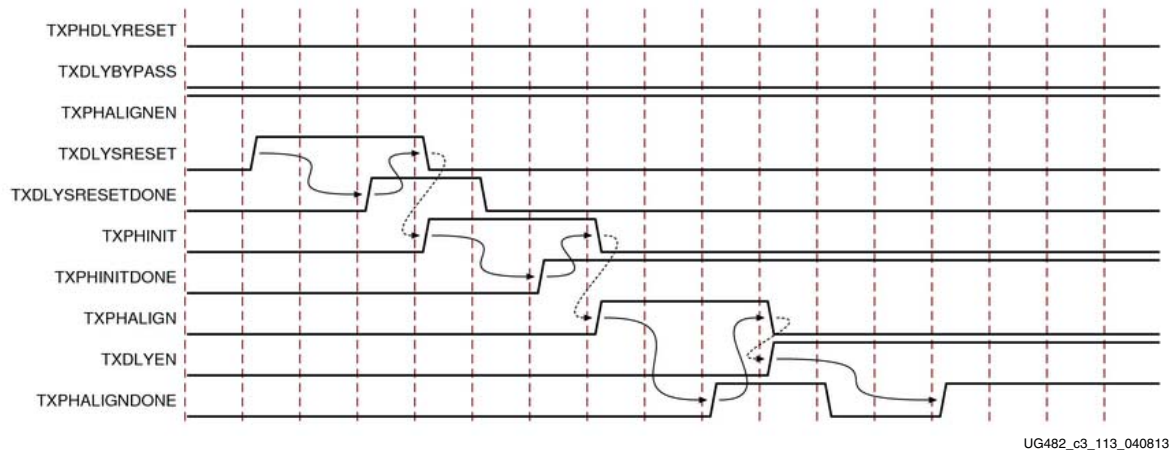

Figure 3-12: TX Buffer Bypass Example, Single Lane Mode
Figure 3-12 shows the required steps to perform the TX phase alignment and use the TX delay alignment to adjust TXUSRCLK to compensate for temperature and voltage variations.
Notes relevant to Figure 3-12:
1. The sequence of events in Figure 3-12 is not drawn to scale.